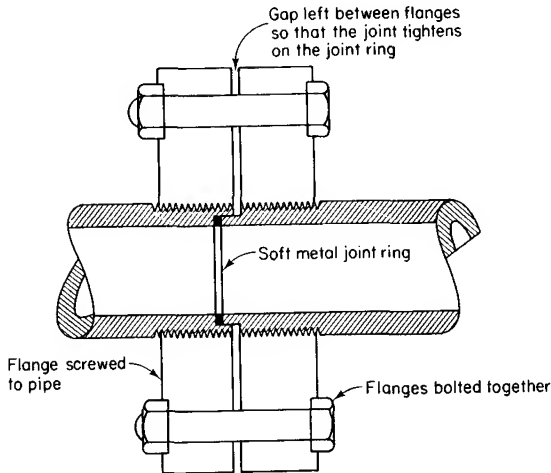

Fig. 4.159 High-pressure flanged joint. (A pressure of about 17 000 kN/m² may be carried)
1. **Flanged joints.** High-pressure flanged joints are made as shown in Fig. 4.159.